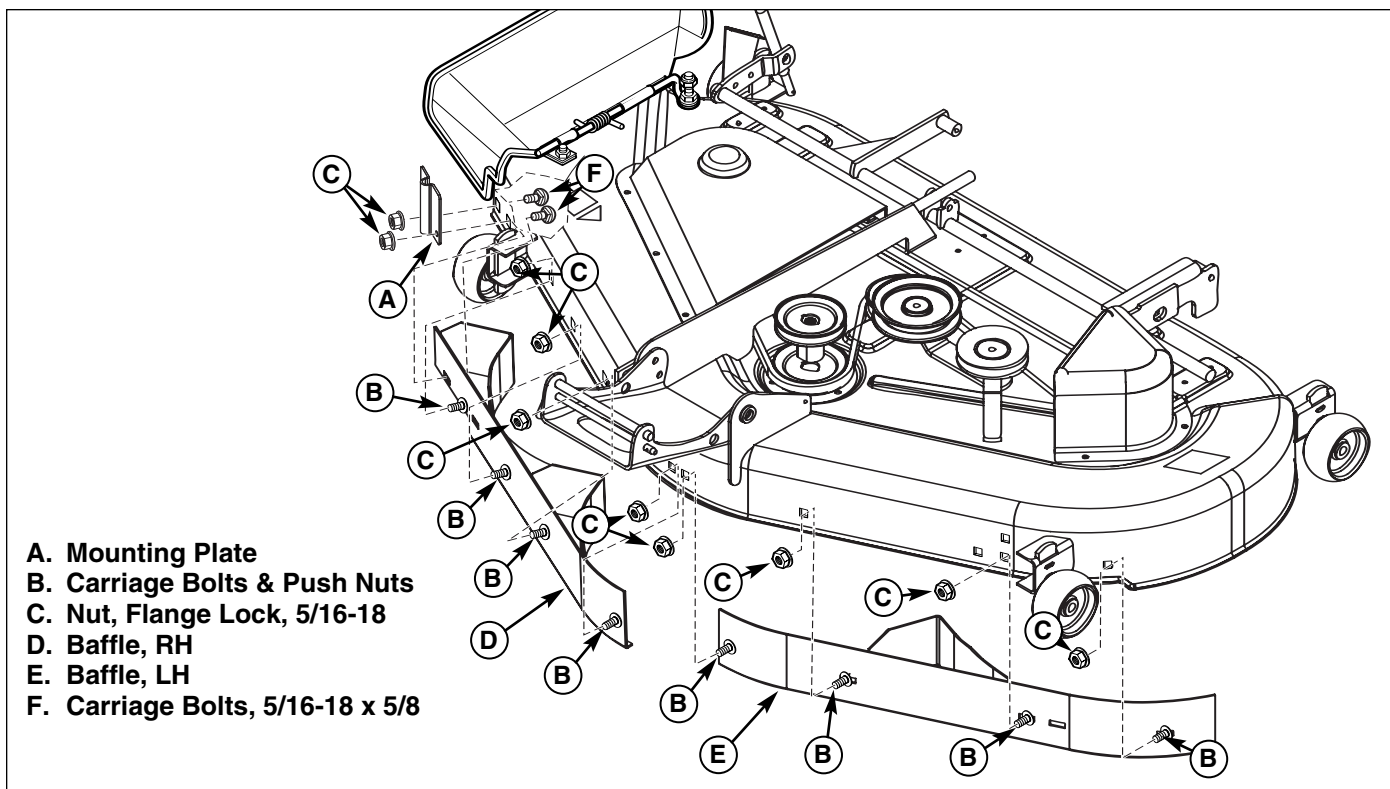
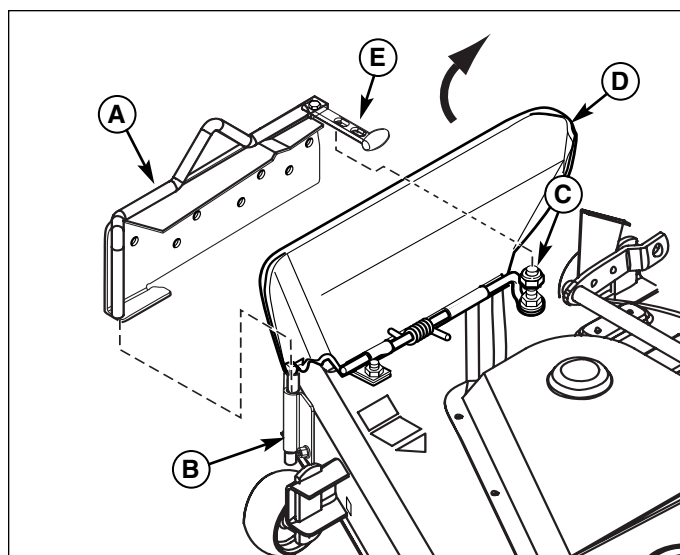

Figure 7. Baffle Installation
Figure 8. Mulch Cover Installation
10. Install mounting plate (A, Figure 7) to mower deck securing with 5/16-18 x 5/8 carriage bolts (F), and nuts (C).
11. Install LH baffle (E) secure with carriage bolts & push nuts (B) and nuts (C).
13. Lift discharge deflector up (D, Figure 8).
14. Insert mulch baffle assembly (A) into mounting plate (B).
15. Pull rubber strap (E) and secure by placing strap completely over locknut (C).